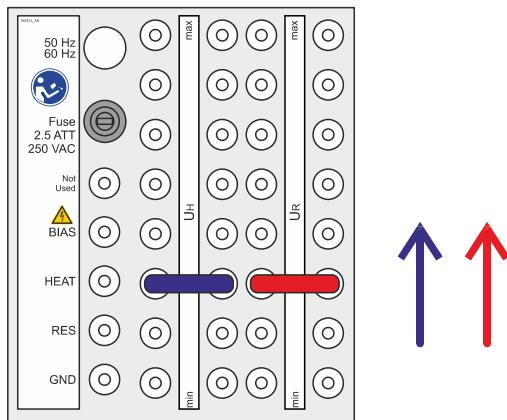

Figure 129: Thyatron supply voltage increase
9. Remove the U_H and/or U_R jumpers and insert at the next highest setting (see Figure 129).